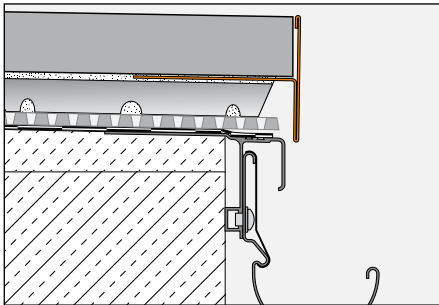

Fig. 3
- 3.3 If the assembly is constructed with the paver supports Schlüter-TROBA-STELZ-MR (Fig. 3), the BARA-RT / BARA-RTC profile is integrated into the spot of mortar. The finishing profile covers the exposed edge of the cover assembly. The self-supporting pavers are then installed on top of the stilted construction.